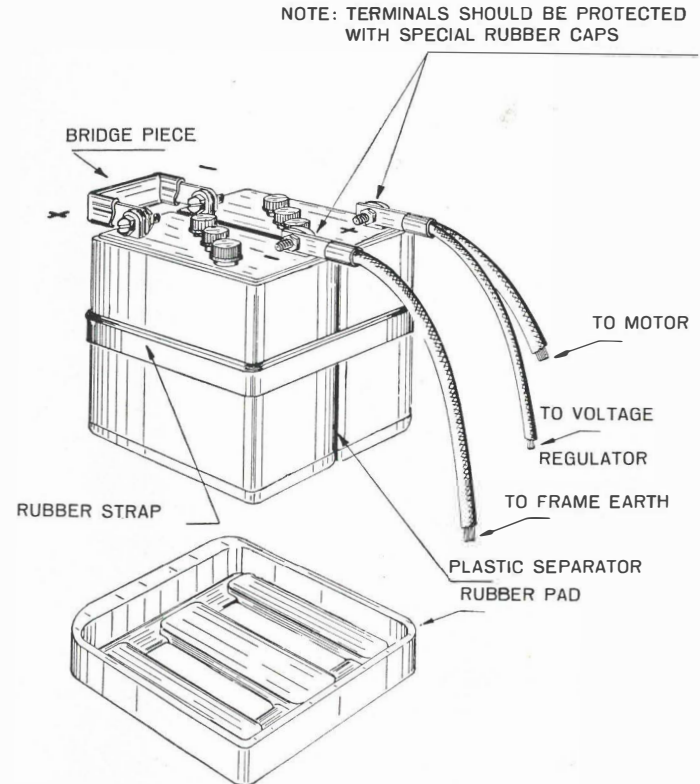

Fig. 89
Before inserting the batteries into the cavity where they should be housed, assemble the group as illustrated in fig. 89.
- d) When mounting batteries in vehicle take care to connect leads correctly (See wiring diagram - fig. 89): insert positive pole (+) in the circuit and link negative pole (—) to earth in the frame. Faulty con-